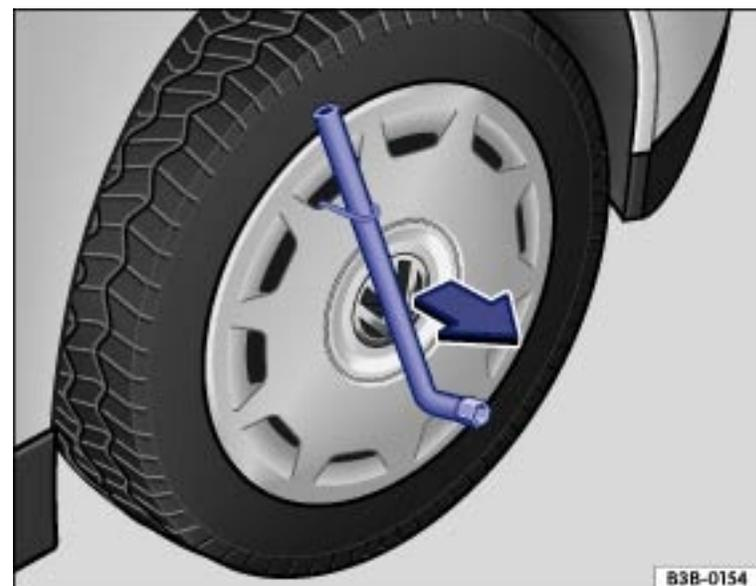

Fig. 212 Pulling the wheel cover off.
- ▶ Slide the lug wrench through the clip → Fig. 212 and pull the wheel cover off in the direction of the arrow.